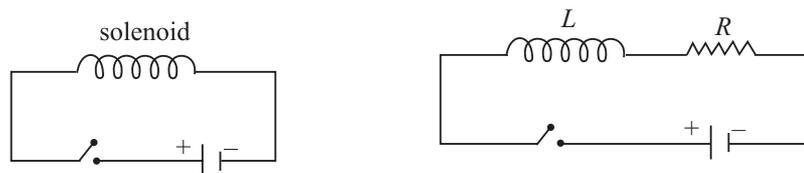
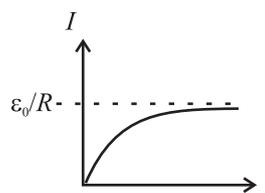

Fig. 19.9: LR Circuit
Fig.19.10 : Variation of current with time in a LR-circuit.
Suppose that a solenoid is connected to a battery through a switch (Fig.19.9). Beginning at $t = 0$, when the switch is closed, the battery causes charges to move in the circuit. A solenoid has inductance (L) and resistance (R), and each of these influence the current in the circuit. The inductive and resistive effects of a solenoid are shown schematically in Fig.19.10. The inductance (L) is shown in series with the resistance (R). For simplicity, we assume that total resistance in the circuit, including the internal resistance of the battery, is represented by R . Similarly, L includes the self-inductance of the connecting wires. A circuit such as that shown in Fig.19.9, containing resistance and inductance in series, is called an LR circuit.
If there been no inductance in the circuit, the current would have jumped immediately to the maximum value defined by ϵ_0/R . But due to an inductance coil in the circuit, the current rises gradually and reaches a steady state value of ϵ_0/R as $t \rightarrow \tau$. The time taken by the current to reach about two-third of its steady state value is equal to by L/R , which is called the **inductive time constant** of the circuit. Significant changes in current in an LR circuit cannot occur on time scales much shorter than L/R . The plot of the current with time is shown in Fig. 19.10.